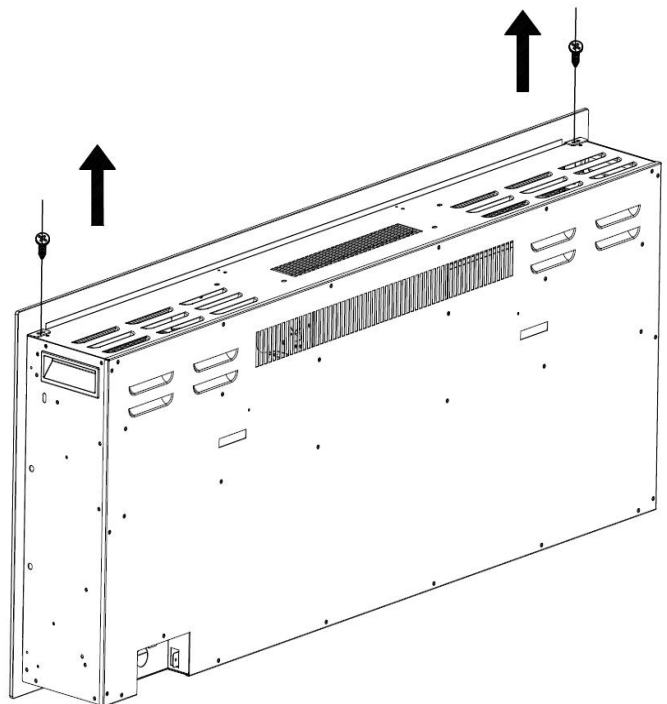

Fig. 1-1
- A. With one hand on the front glass to prevent it from falling, remove the two screws (1 per side) from the top of the appliance (**Fig. 1-1**). Set the screws aside.